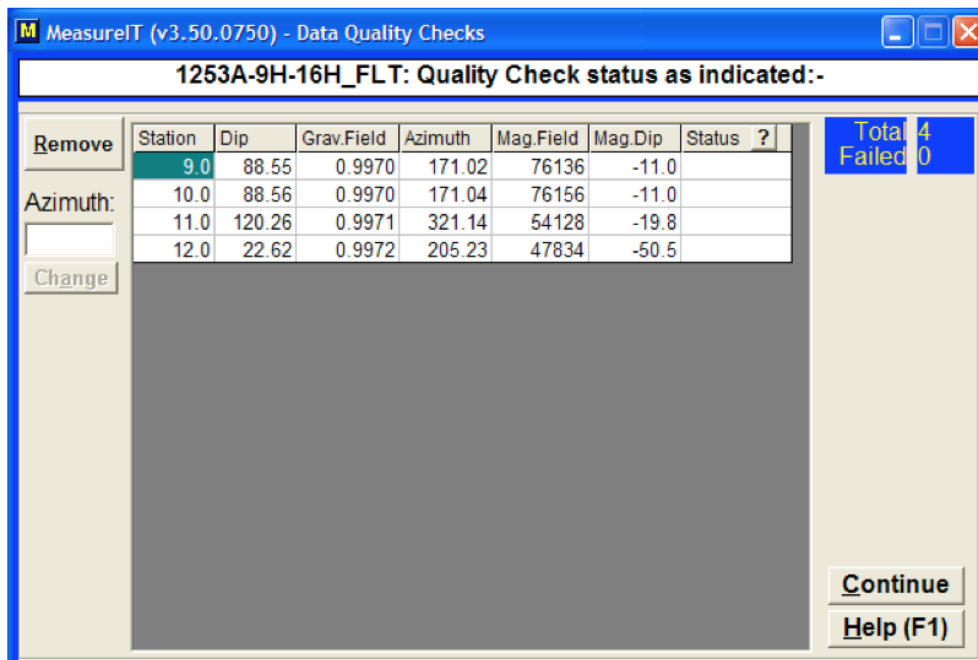

Figure 15 Final results (for our purposes, "Station" = measurement every 6 seconds)
10. The final screen will reveal the results of the survey (Figure 15). You can review both the raw and processed survey files by navigating to the file location you specified as shown in Fig. 1B. All files are in ASCII text despite the file type suffix (.rsy=raw survey, .svy=data-reduction results, .csy=continuous survey, .dtf=depth/time file). Select **Continue**.